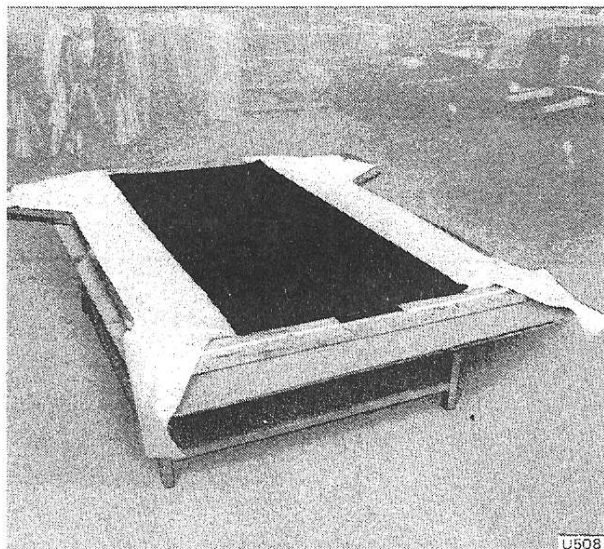

Fig. S94 Tacking the Union Cloth to the Everflex
8. Tack the black Union Cloth into position on the Everflex (see Fig. S94). Ensure that the cloth is level with the Everflex at the front and rear and overlaps the stitched roof seams by approximately 8 cm. (3.0 in.).